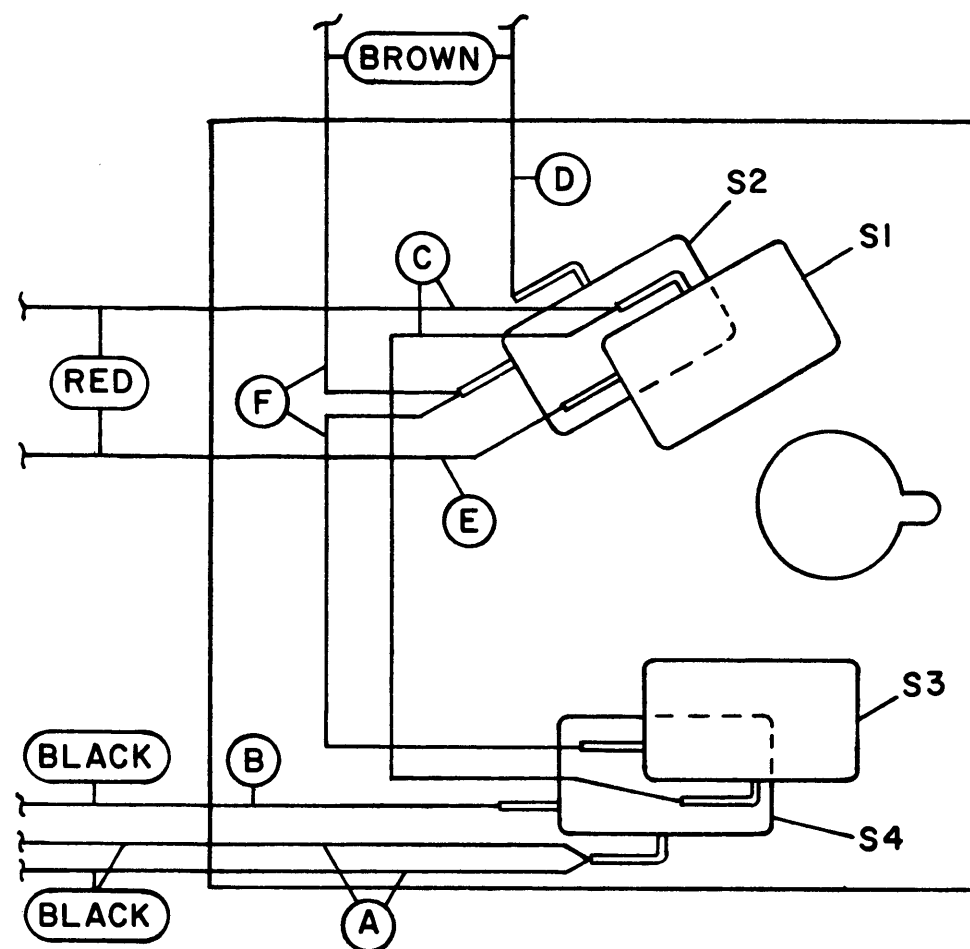
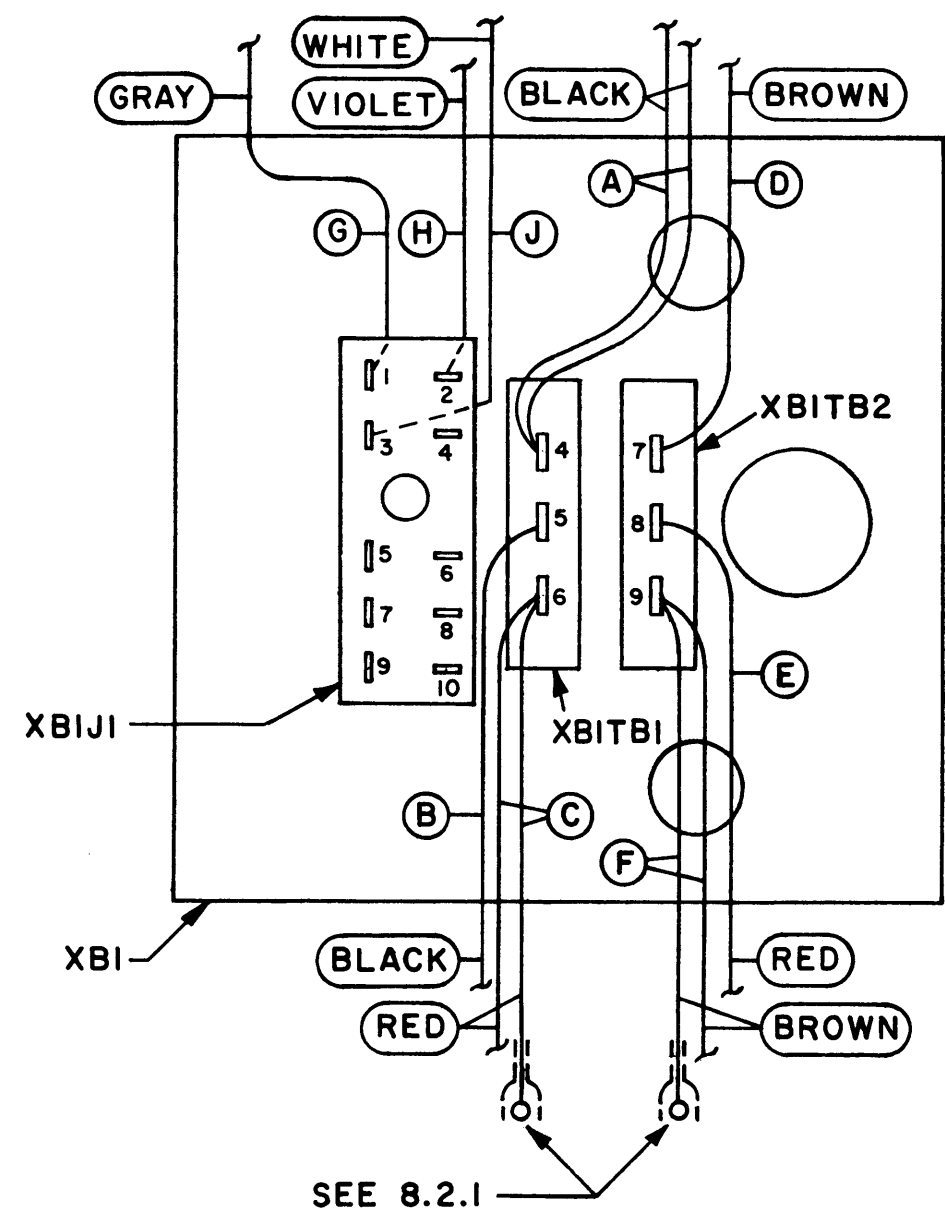

FIGURE 9A
FIGURE 9B
8.2.1 Figure 9 shows the connections which are required for the motor actuator. Figure 9A shows the wiring on a manual switch. Notice that S1*, S2*, S3* and S4* on the manual switch corresponds directly with B1S1 through B1S4 in the linear actuator. The actuator uses the same interlock and indicator harness wiring as does the manual switch. The six indicator and interlock wires are identified in Figure 9A by letters (A through F). These wires are disconnected from the microswitches and connected to the motor actuator adapter's terminal strips as shown in Figure 9B. Two of the wires (C & F) have pigtails which must be insulated and tucked out of the way. This method of wiring permits convenient manual operation at any time for emergency service or for a change in the operating conditions.
8.2.2 Connections to the motor control harness are made with inline splices on the three pigtails (G, H, J) shown in Figure 9B. The pigtails are colored violet, gray, and white and are connected to the corresponding colored wires on the control harness.